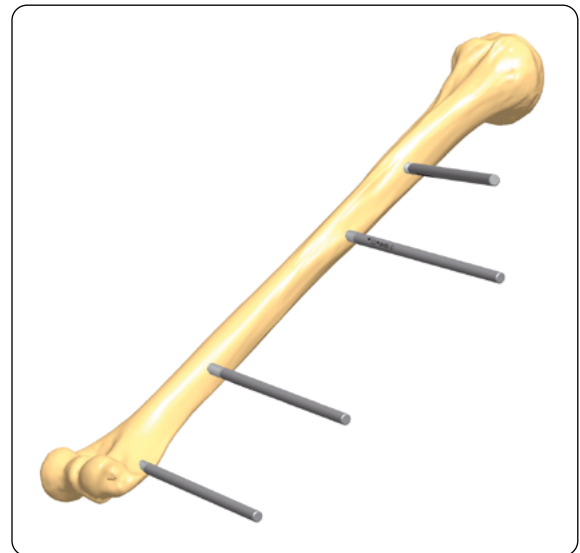

Fig. 7
7) Insert the remaining screws using the same technique (**Fig. 7**).